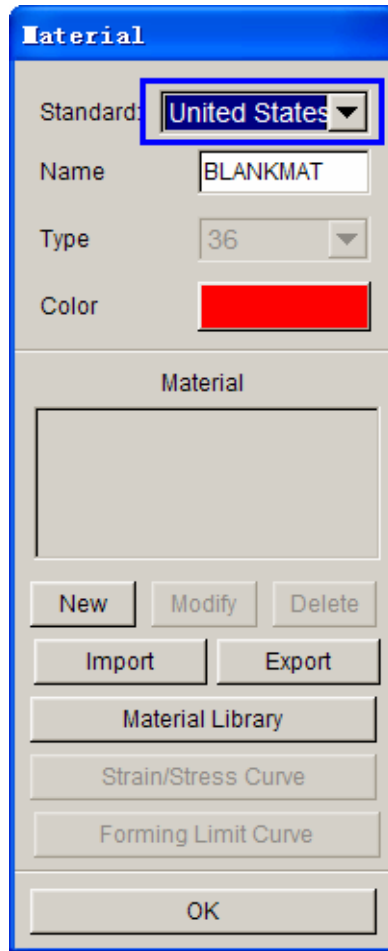

Figure 2.24: Material dialog box
- 4) Click on the **None** button next to Material field to display the **Material** dialog box illustrated in Figure 2.24. Again, you observe all elements in the display area are highlighted.
- 5) Select the Material Standard as **UNITED STATES**. See Figure 2.24